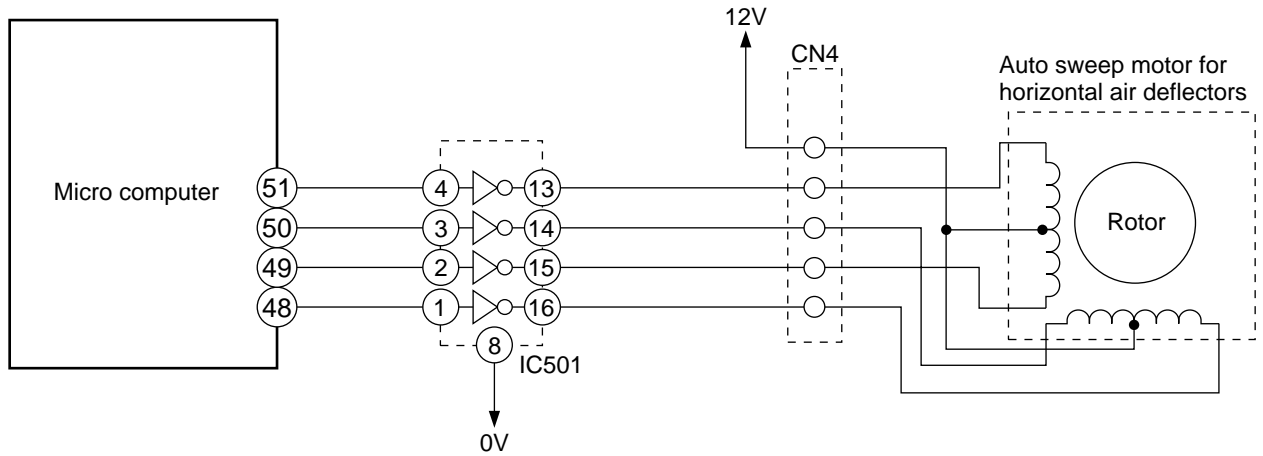
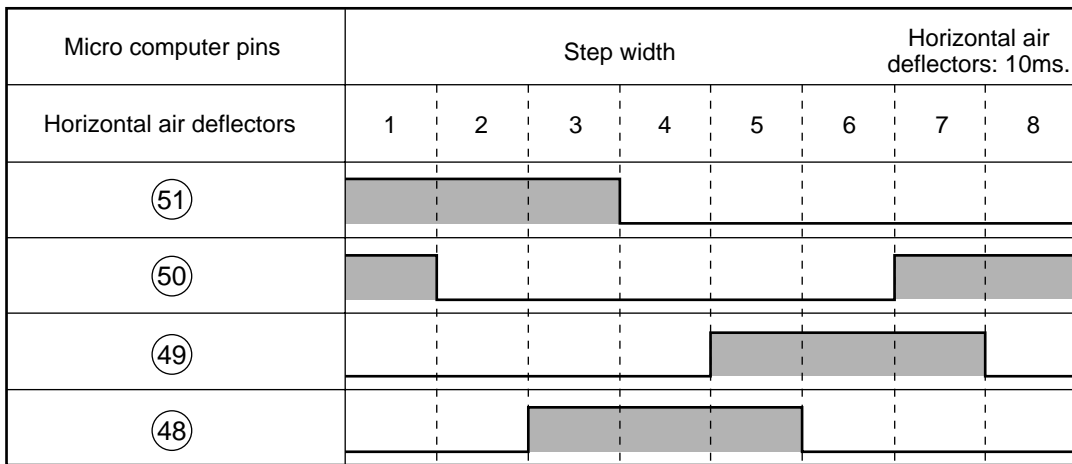

Fig. 4-1 Auto Sweep Motor Circuit (Horizontal air deflectors)
Fig. 4-2 Micro computer Output Signals
- Fig. 4-1 shows the Auto sweep motor drive circuit; the signals shown in Fig. 4-2 are output from pins ④⑧–⑤① of the micro computer.
- As the micro computer's outputs change as shown in Fig. 4-2, the core of the auto sweep motor is excited to turn the rotor. Table 4-1 shows the rotation angle of horizontal air deflectors.